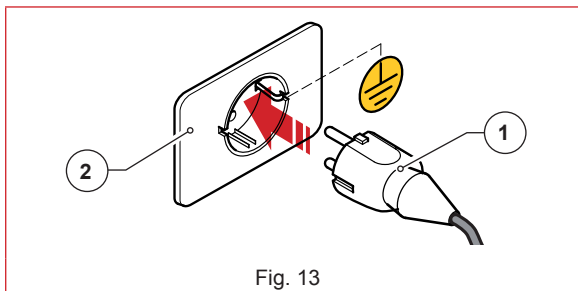

Fig. 13
- Put the power cable plug (Fig. 13 Part. 1) into the wall socket provided at the place of use (Fig. 13 Part. 2);